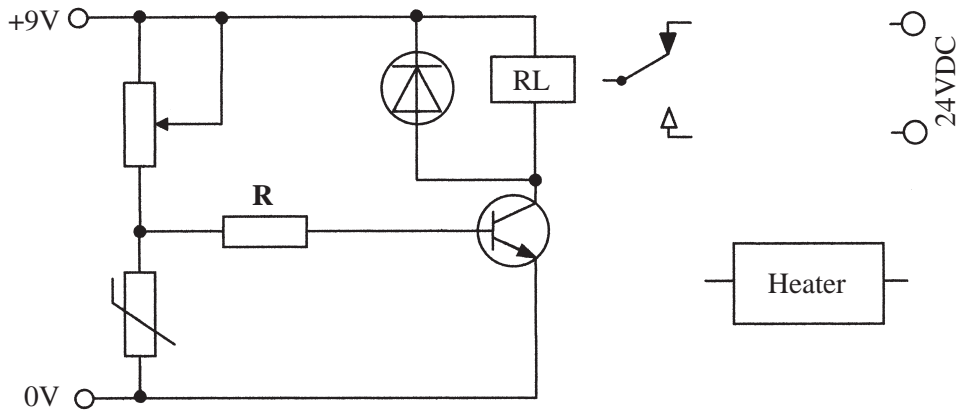

Figure 8
Some testing was carried out using the circuit shown in **Figure 8**.
- (a) Show, by completing **Figure 8**, how the heater, the 24VDC power supply and the relay would be connected so that the heater is switched on when the relay is energised.